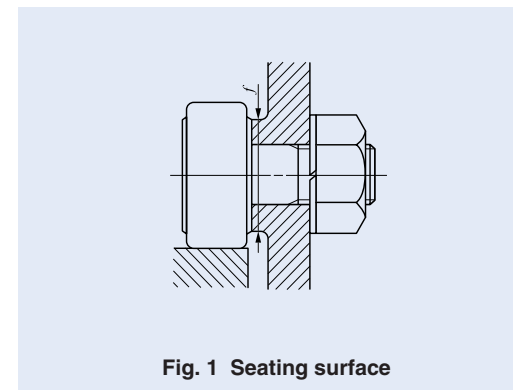

Fig. 1 Seating surface
- 1 Make the center axis of the mounting hole perpendicular to the moving direction of the Cam Follower and match the side shoulder accurately with the seating surface indicated by dimension *f* in the table of dimensions. (See Fig. 1.) Then, fix the Cam Follower with the nut. Do not hit the flange head of the Cam Follower directly with a hammer, etc. This may lead to a bearing failure such as irregular rotation or cracking.